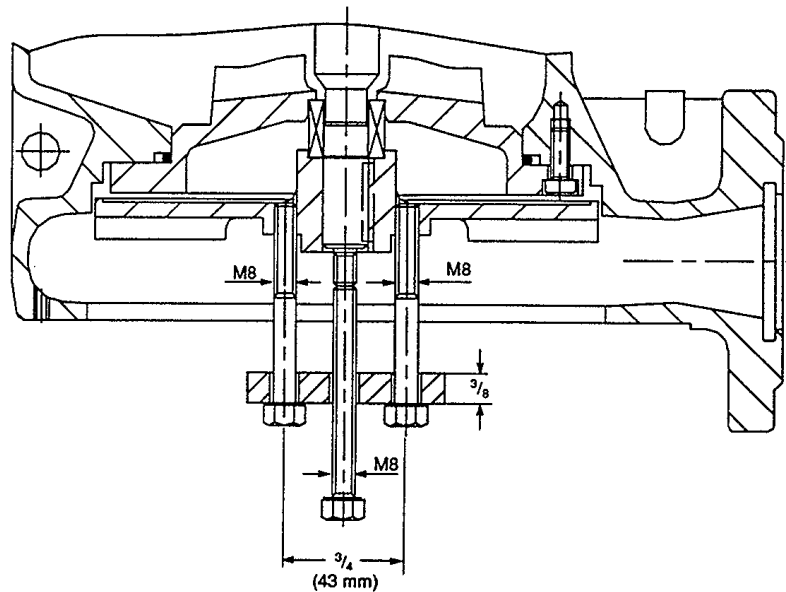

Fig. 2
5. Use pull-off device, see fig. 2, to pull impeller part # 230 off the shaft.